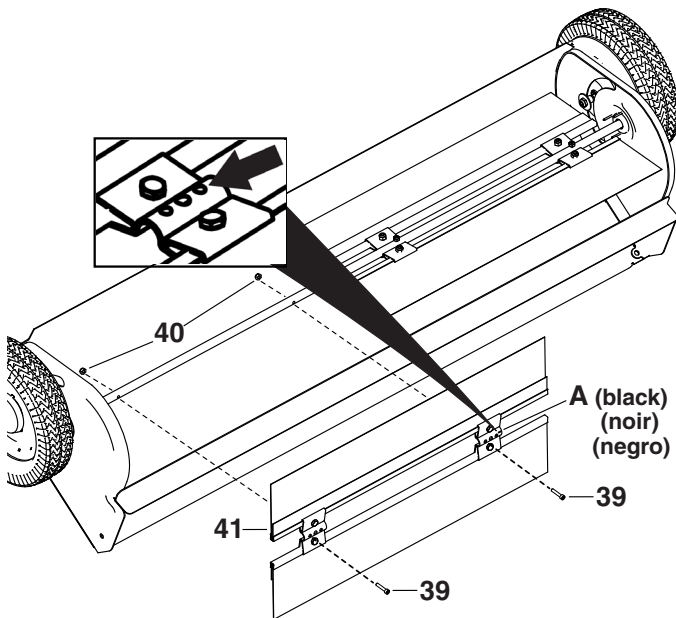

FIGURE 5
- Place the brush assembly (41) with the black brush retainer on the brush shaft so that the black brush retainer is positioned in the middle of the shaft.
- Install the two 10/32 x 1" sockethead screws (39) through the brush assembly (41) and brush shaft. Using the outer holes. See Figure 5.